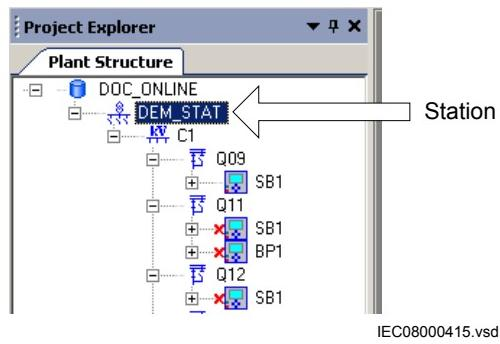

Figure 63: IEC 61850: Export SCD step 1
1. Select the station in the plant structure, see Figure 63.